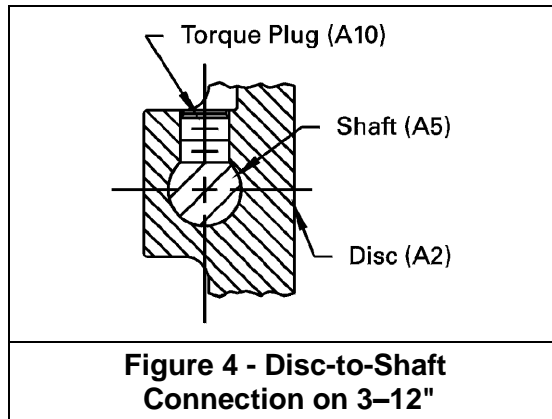

Figure 4 - Disc-to-Shaft Connection on 3–12"
- On sizes 3–12", align and center the flat on the shaft with the tapped hole in the disc. See Figure 4. On sizes 3–6", apply one bead of Loctite 243 along half the depth of the threads tapped hole; on sizes 8–12", apply two beads, on opposite sides. Apply one bead to the threads of the torque plug (A10) and screw the torque plug into the disc and tighten to the torque shown in Table B.